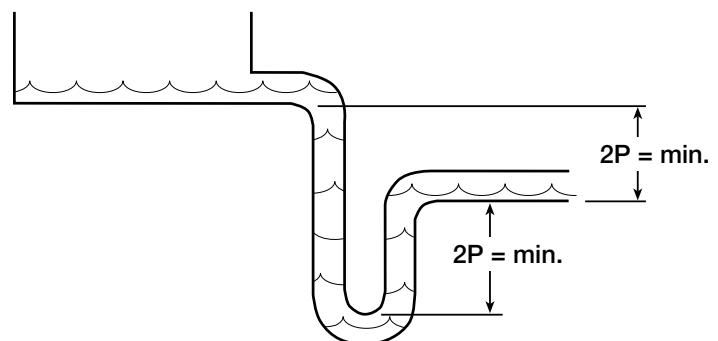

Figure 4
6. For chilled water coils, the condensate drain pipe should be sized adequately to ensure the condensate drains properly. See **DRAIN PAN TRAPS** and Figure 4.
2. The condensate drain pipe should be sized adequately to ensure the condensate drains properly. See **DRAIN PAN TRAPS** and Figure 4.
Drain lines and traps should be run full size from the drain pan connection. Drain pans should have drain lines and traps to permit the condensate from the coils to drain freely. On all units with drain pans, the trap depth and the distance between the trap outlet and the drain pan outlet should be twice the static pressure (P) in the drain pan section under normal operation to assure the trap remains sealed. Refer to Figure 4.